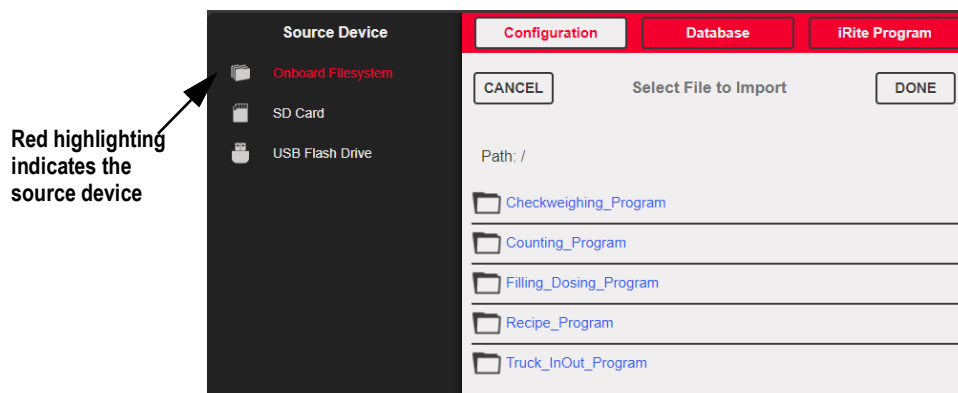

Figure 14-1. Import Configuration
NOTE: The Import Configuration screen looks the same whether importing from an onboard file system, a micro SD card or a flash drive. The only difference is the source device is highlighted in red on the left side of the screen. For an example, see Figure 14-1, a file is being imported from an onboard file system.
2. Press **Import from File**. The Import Screen displays, see Figure 14-1 on page 123. Load both the .rev and .cod files to use the built-in application programs.
4. Select **Import from File**. The Import Screen displays, see Figure 14-1 on page 123.
2. Press **Import from File**. The Import Screen displays, see Figure 14-1 on page 123.
3. Press **Import from File**. The Import Screen displays, see Figure 14-1 on page 123.